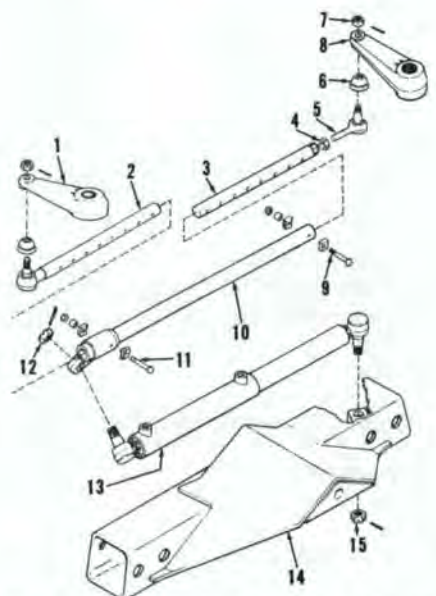

Fig. 3—Exploded view of steering tie rod, cylinder, and arms typical of all models. (Standard wheel base axle shown.)
Disassembly of tie rod assembly is obvious after examination of unit and reference to Fig. 3. However, upon reassembly make sure clamp bolt (9) for left side drag link (3) is installed in same number hole as left side axle extension outer bolt; and that right side drag link bolt (11) is installed in one less number hole of drag link (2) than outer mount-
Front wheel toe-in must be 1/8 to 1/2 inch (3.2-12.7 mm). To adjust toe-in, remove clamp bolt (9—Fig. 3) on left drag link. Loosen jam nut (4), then turn drag link (3) in or out until desired toe-in is obtained. Install clamp bolt and tighten nut on clamp bolt to 45-54 ft.-lbs. (61-73 N·m) torque. Tighten jam nut (4) against drag link.
5. To remove axle main member, first raise and support tractor under engine side rails with suitable jack stands. Disconnect tie rods from steering arms, then refer to Fig. 3 and disconnect power steering cylinder (13) from axle main member and tie rod lug. Secure steering cylinder up and out of the way. Be careful not to damage hydraulic lines to cylinder.
6. To remove axle main member, first raise and support tractor under engine side rails with suitable jack stands. Refer to Fig. 3 and disconnect power steering cylinder (13) from axle main member and tie rod lug. Secure cylinder up and out of the way. Be careful not to damage hydraulic lines to cylinder.